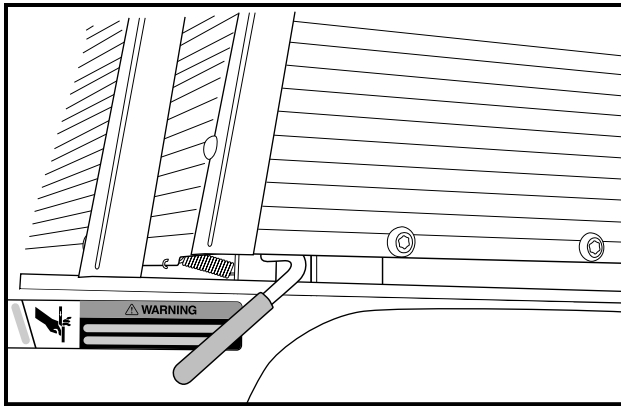
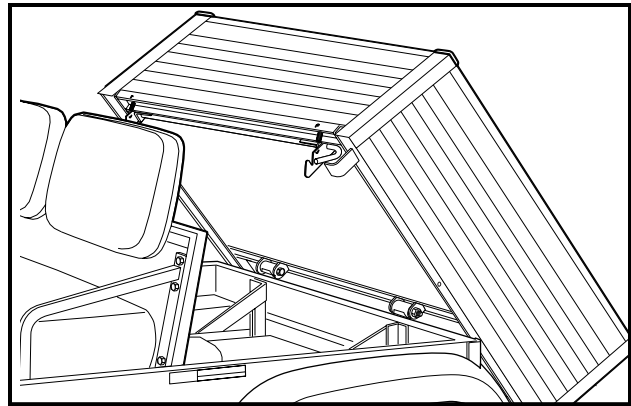

Figure 12 XRT 1200SE Bed Latch
Figure 13 XRT 1200SE Raised Bed
The bed latch (**Figure 12**) releases the bed. To lift the bed, push down on the latch handle while lifting up on the bed. The bed is balanced so as to stay in a raised position automatically (**Figure 13**). To close the bed, lower it gently until the bed latch engages. **DO NOT** drop the bed. See following **WARNING**.
- Turn fuel shut-off valve to the closed (OFF) position (Figure 12, Page 23).